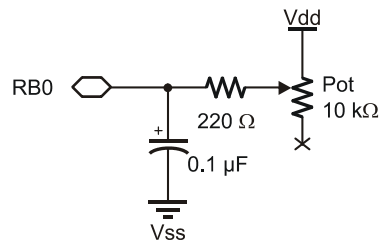

Figure 13-2: Reading a Potentiometer
The SX, of course, can keep time in a variety of ways. The trick is to select a method that provides adequate resolution for the task at hand without using such a high resolution that you'll need large counters to handle the time periods of interest. For example, suppose you have a 10 k Ω potentiometer and a .1 μ F capacitor wired as shown in Figure 13-2.
2. Build the circuit shown in Figure 13-2. Create a program that reads the 16-bit count that shows the potentiometer's position and verify your code's operation using the SX-Key debugger.
3. Modify the above program to display the result on an RS-232 terminal. Hint: Write a carriage return (13) and disable the terminal's auto linefeed mode (if any) to see a pleasing display.